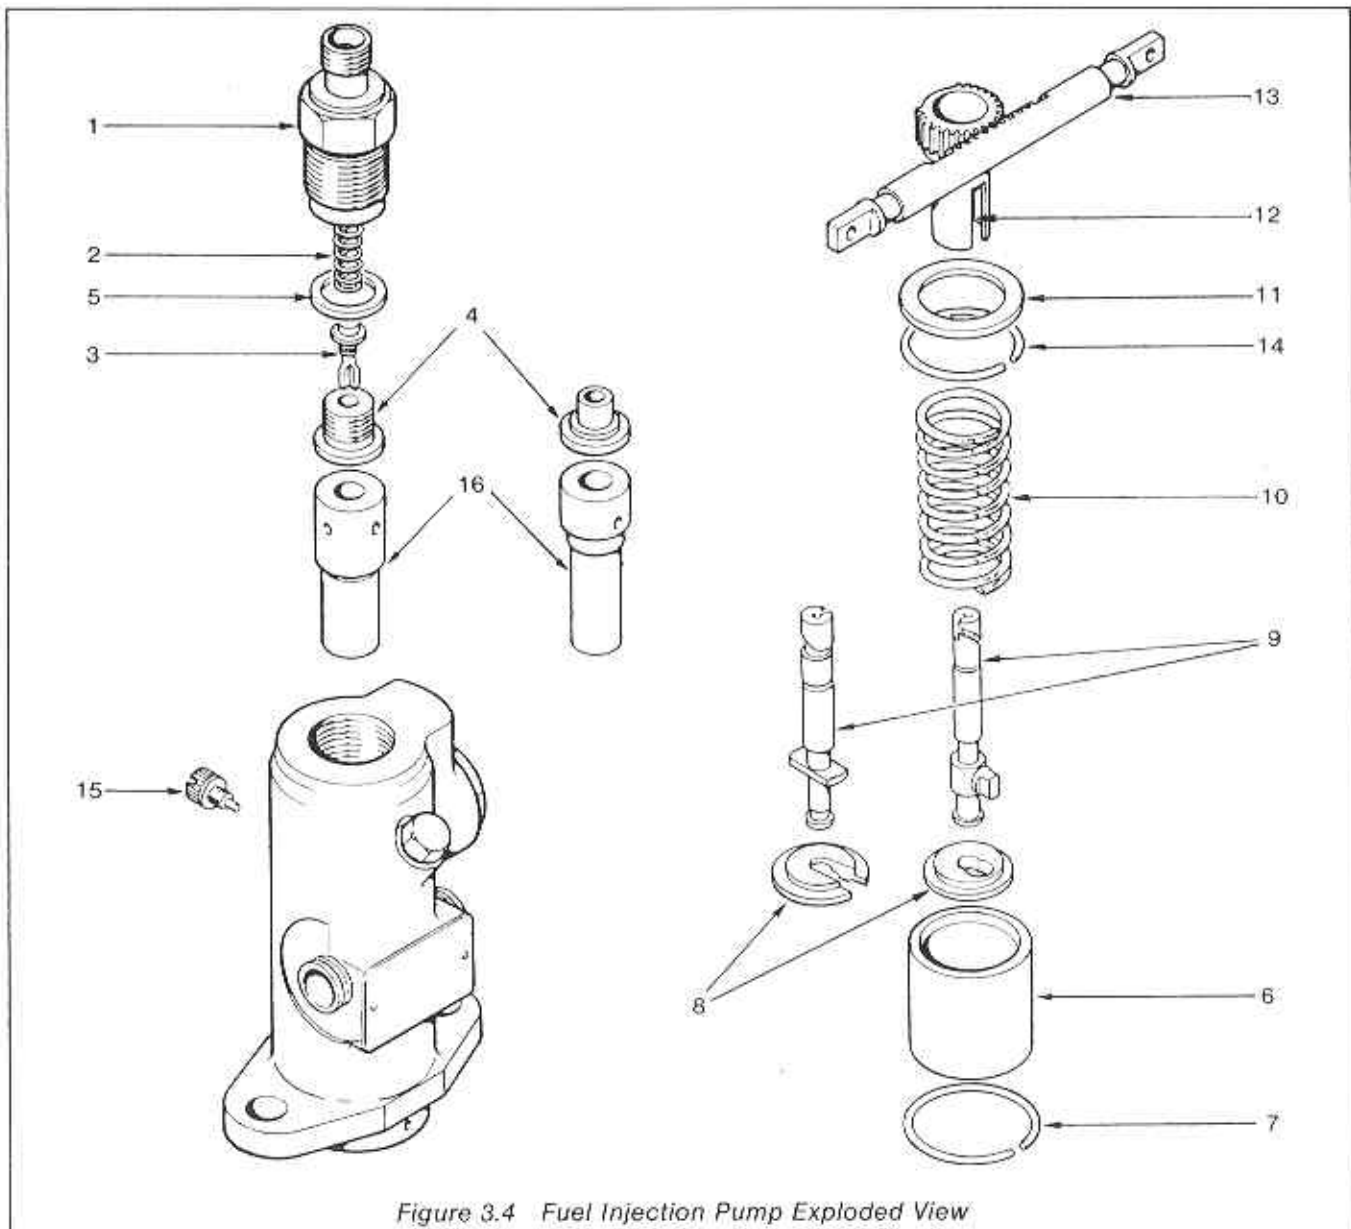
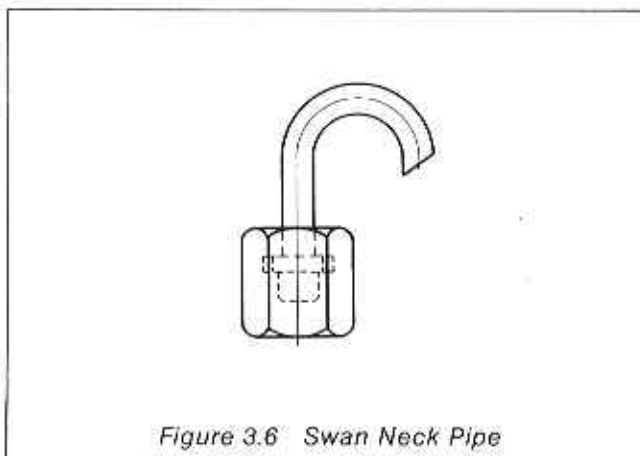
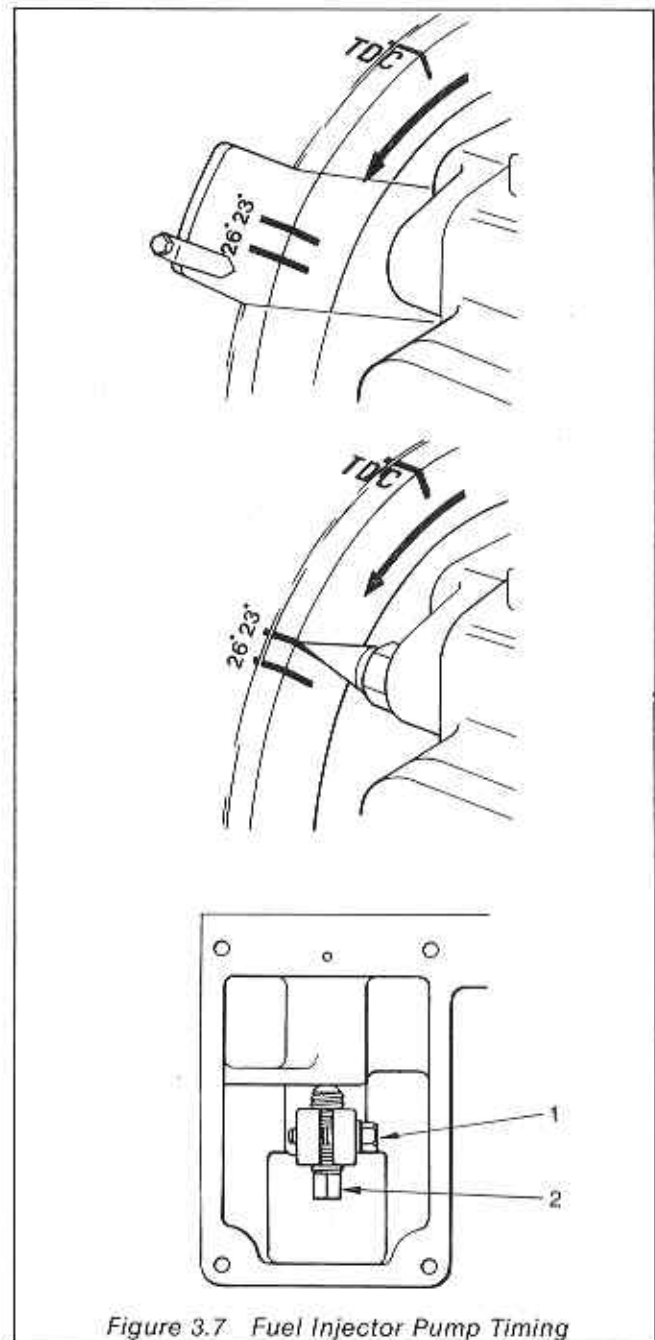

Figure 3.4 Fuel Injection Pump Exploded View
Figure 3.6 Swan Neck Pipe
Figure 3.7 Fuel Injector Pump Timing
Dismantling (Figure 3.4)
Maintenance (Figure 3.4)
Assembly (Figure 3.4)
Timing (Figure 3.7)
- (3) Remove the pump-to-injector pipe and unscrew the union body (Figure 3.4 (1) from the pump. Lift out the delivery valve and place in clean fuel. Do not disturb the delivery valve seat. Replace the union body, leaving out the delivery valve. Fit a spill swan neck pipe (Figure 3.6) to the pump union body.
- (4) Turn the flywheel until the appropriate timing mark (refer to Table 3.1) preceding the TDC mark is opposite the pointer.
- (5) With reference to Figure 3.7 slacken the pump rocker pinch bolt (1). Unscrew the adjusting screw (2) until the pump is at the bottom of its stroke. Allow the fuel to flow from the pump. If a fuel lift pump is fitted fuel will not flow unless the feed pump lever is operated.